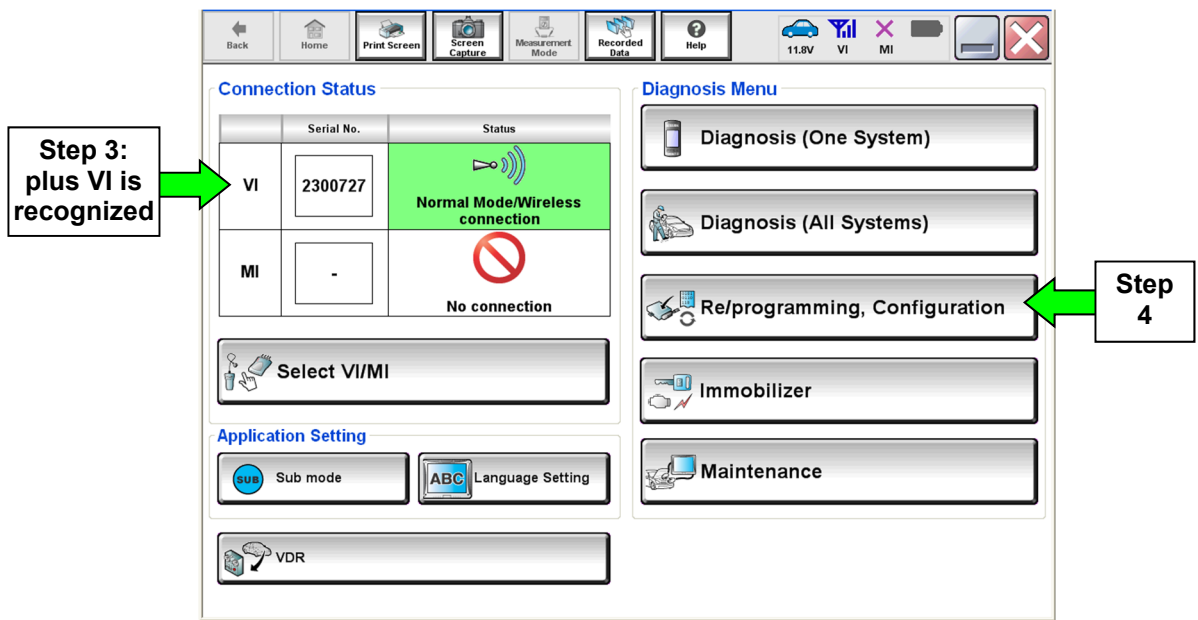

Figure 5
1. Return to the C-III- plus Home screen (see Figure 5).